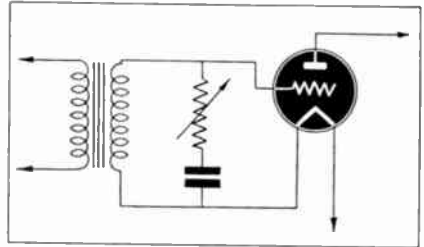

Fig. 17
(A) It is a method of by-passing or blocking certain audio frequencies to prevent their reaching the reproducer. A common means of attenuating or weakening the highs is to connect a fixed condenser and variable resistor (values may be .01 mf. and 500,000 ohms) across the primary of the first audio transformer. The lows may be blocked by means of a fixed condenser in series with a speaker lead. A switching system, used with a number of fixed condensers of various values, permits the degree of bass attenuation to be controlled. See Fig. 17.